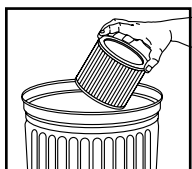

FIGURE 22
27. To clean cartridge filter shake or brush off excess dirt. **FIGURE 22.**